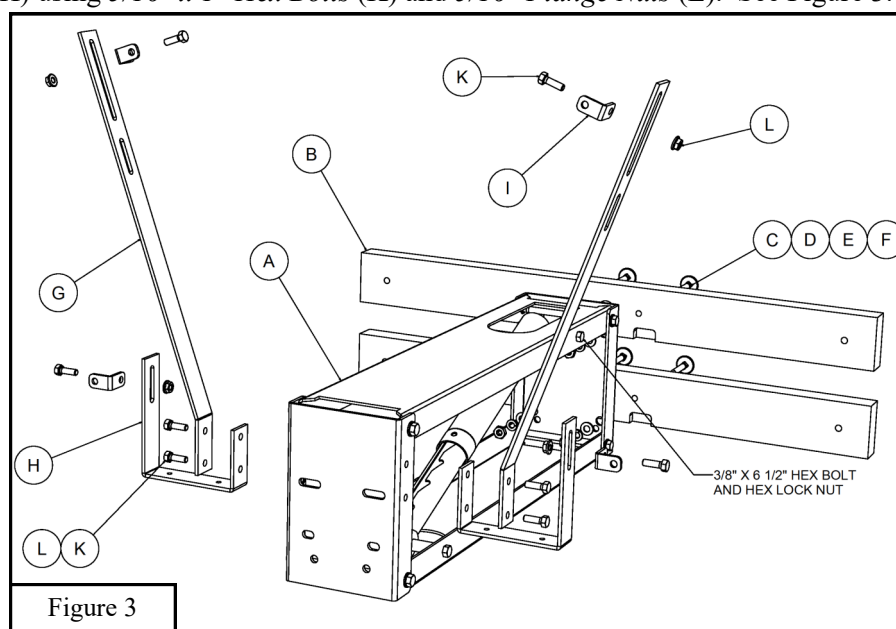

Figure 3
3. Remove the 3/8" Hex lock nut and 3/8" x 6 1/2" Hex bolt from the upper channel of the *Extension Arm Assembly* (A) and attach the upper end of the rim height adjustment mechanism to the *Extension Arm Assembly* (A). Take care to avoid finger entrapment during attachment. See Figure 3.
4. Attach *Extension Arm Assembly* (A) to the four 3/8" x 2 1/2" *Flanged Elevator Bolts* (C) protruding from the *Wall Boards* (B). Use 3/8" *Flat Washers* (D), 3/8" *Lock Washers* (E) and 3/8" *Hex Nuts* (F). Tighten all hardware when *Extension Arm Assembly* (A) is level. See Figure 3.
- 5a. Mount the *Upper Backboard Supports* (G) to the holes on the side of the mounting plate on the *Extension Arm Assembly* (A) using *5/16" x 1" Hex Bolts* (K) and *5/16" Flange Nuts* (L). Discard *Lower Backboard Supports* (H) for this system. See Figure 3.
- 6a. Loosely attach the *Backboard Mounting Angles* (I) to the end of the *Upper Backboard Supports* (G) using *5/16" x 1" Hex Bolts* (K) *5/16" Flange Nuts* (L). Discard extra *Backboard Mounting Angles* (I) and *5/16"* hardware for this system. See Figure 3.
- 5b. Mount the *Upper Backboard Supports* (G) and the *Lower Backboard Supports* (H) to the holes on the sides of the mounting plate on the *Extension Arm Assembly* (A) using *5/16" x 1" Hex Bolts* (K) and *5/16" Flange Nuts* (L). See Figure 3.
- 6b. Loosely attach the *Backboard Mounting Angles* (I) to the end of each of the *Upper and Lower Backboard Supports* (G) and (H) using *5/16" x 1" Hex Bolts* (K) and *5/16" Flange Nuts* (L). See Figure 3.